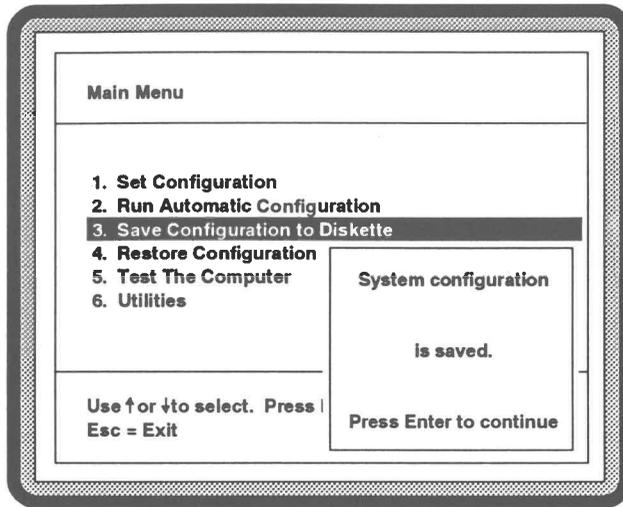

Figure 4-8 Save Configuration to Diskette Program Sequence
4. From the **Main Menu**, select **Save Configuration to Diskette** and press Enter (see Figure 4-8).
NOTE: Figure 4-8 is a composite of the windows you will see while carrying out this procedure. It is intended to show the program sequence.